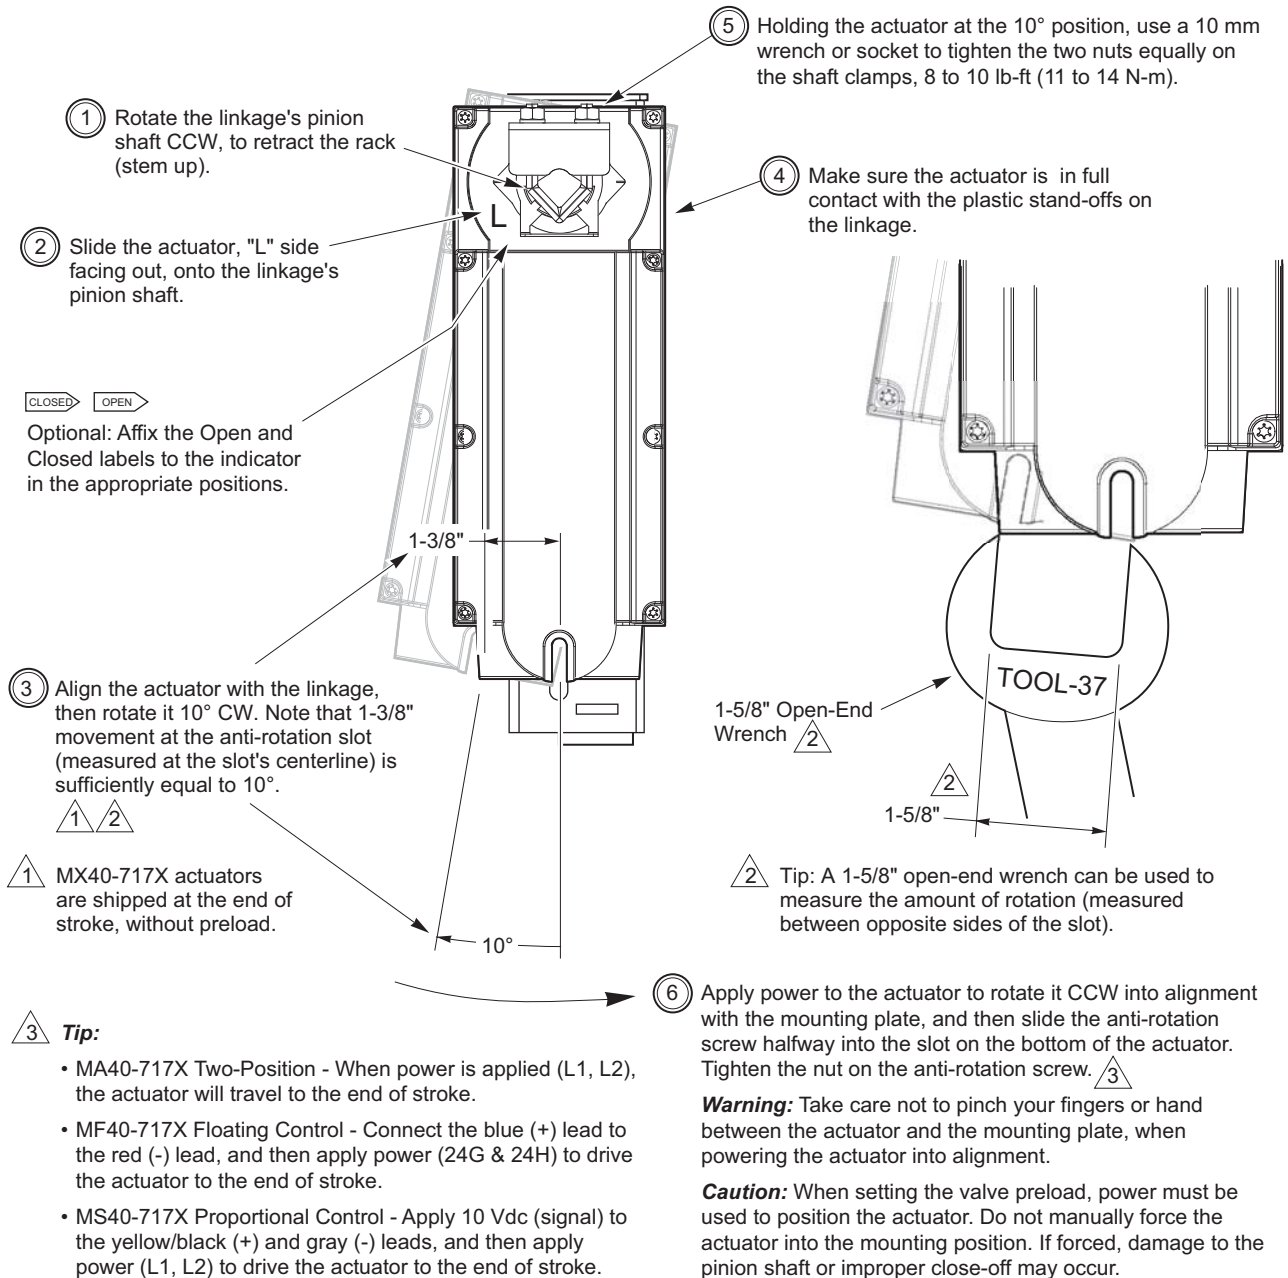

Figure-16 Mounting MX40-717X and Setting up Actuator/Linkage/Valve Assembly.
- a. Install the actuator onto the linkage and 3-way valve, and set up the assembly, according to Figure-16.